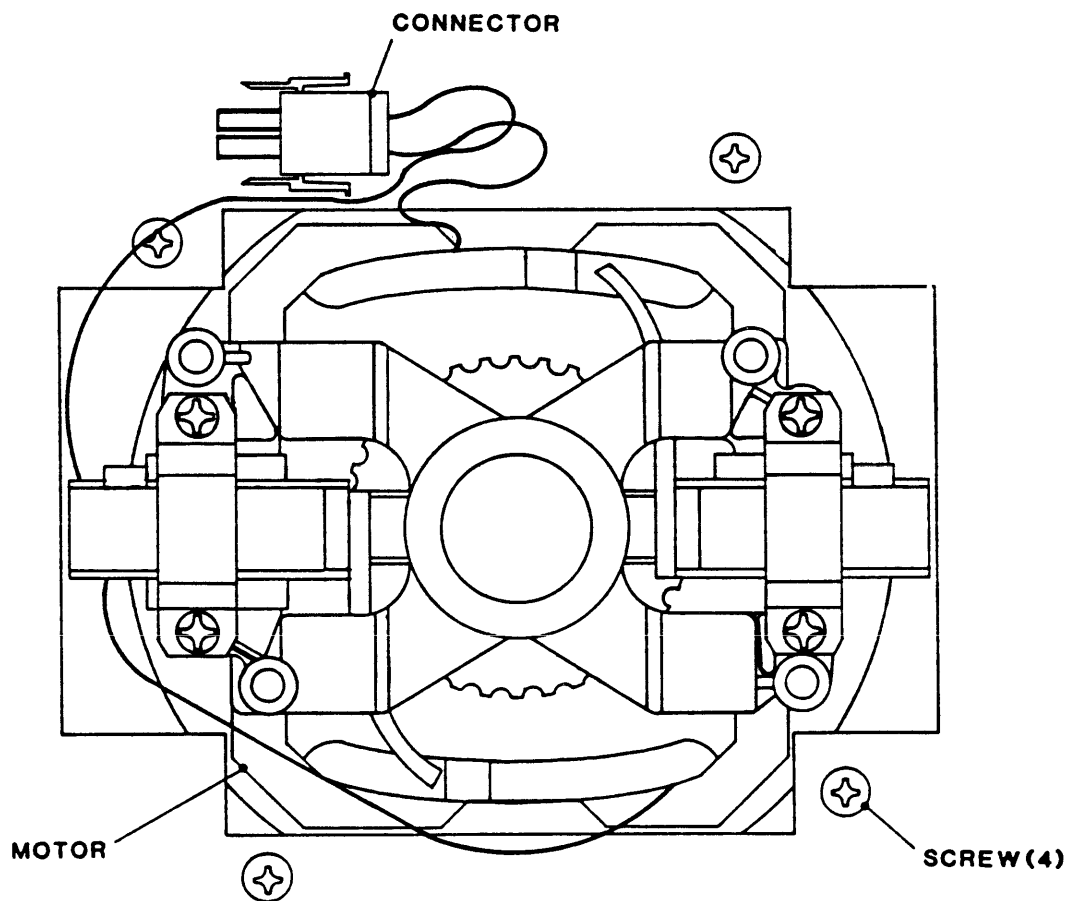

Figure 4-23 Vacuum Motor Assembly
4.3.28 VACUUM MOTOR ASSEMBLY (Figure 4-23)